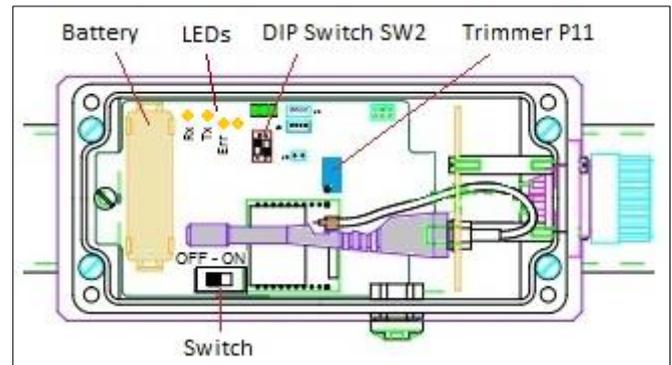

Fig. 5 – Sensor case, inside view.
Turn on the sensor before insertion. The switch is positioned inside the case (Fig. 5).
In addition to replacing the battery inside the case (Fig. 5) when indicated charge level is near to zero, the sensor requires regular maintenance procedure and adjustment.
- 3) Verify that the O2 value is 20.9 %. If different, rotate the P11 trimmer on the board (Fig. 5) until the datalogger display shows the value 20.9%. Turn clockwise to reduce the value and anticlockwise to increase it. If is not possible to reach the value 20.9 % it is necessary to replace the cell because of exhaustion (§ 4.3).
On the electronic board inside the box, there are light indicators (LED) having this meaning (refer to Fig. 5):